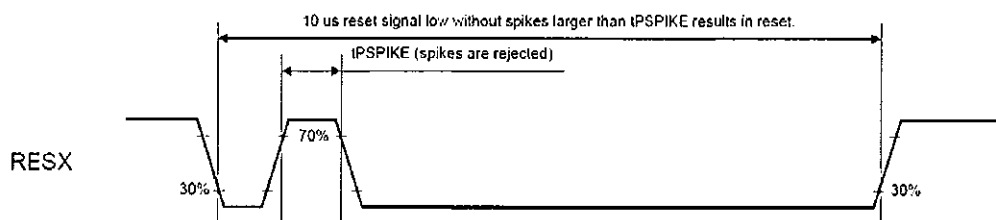

Fig.13
- Noise spike rejection applies to RESX. (See Fig.13, tPSPIKE= Max20ns)